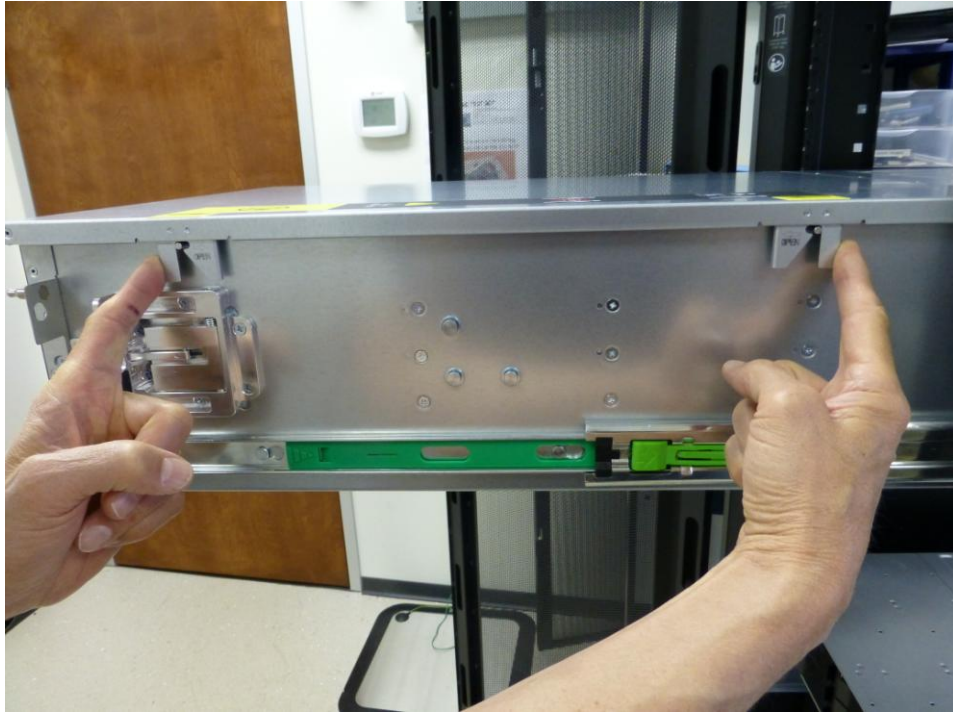

Figure 23. **Opening Disk Drive Bay Door**
2. Open disk drive bay door using release mechanisms on side of enclosure (Figure 23).